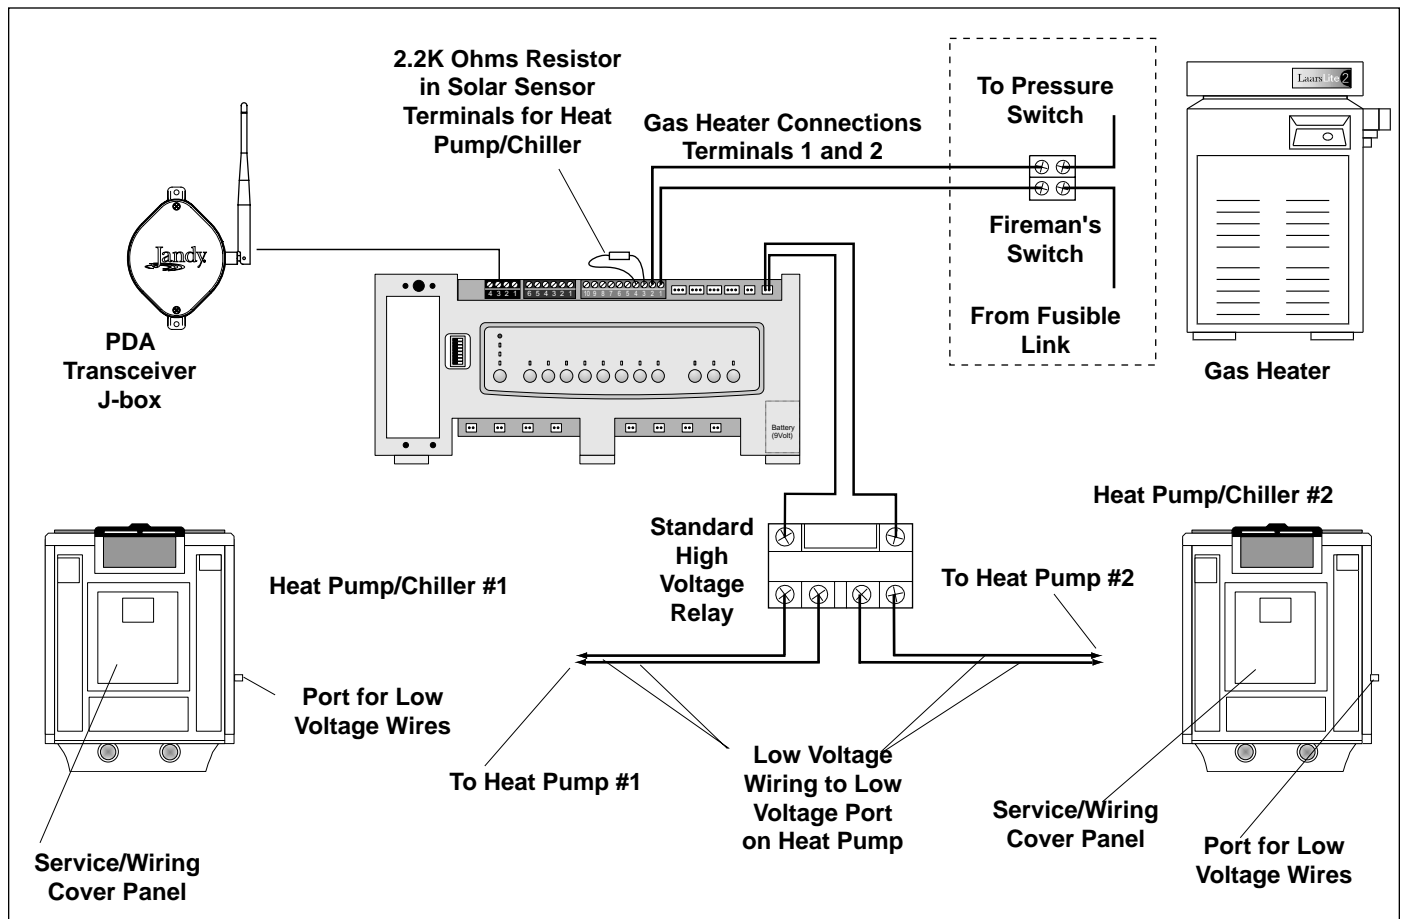

Figure 16. Heater and Heat Pump/Chiller Wiring
1. Install a fixed resistor, with a value of 2.2K Ohms, in the solar sensor terminals #3 and #4 of the green, 10-pin terminal bar of the AquaLink RS Power Center (see Figure 16).
2. To run the wires from the Heat Pump, remove the 5 screws that attach the service/wiring cover panel to the heat pump (see Figure 16).
NOTE One end of the wiring reserved to run into the conduit connection labeled "Low Voltage Connection", located on the lower right hand side of the heat pump (see Figure 16).